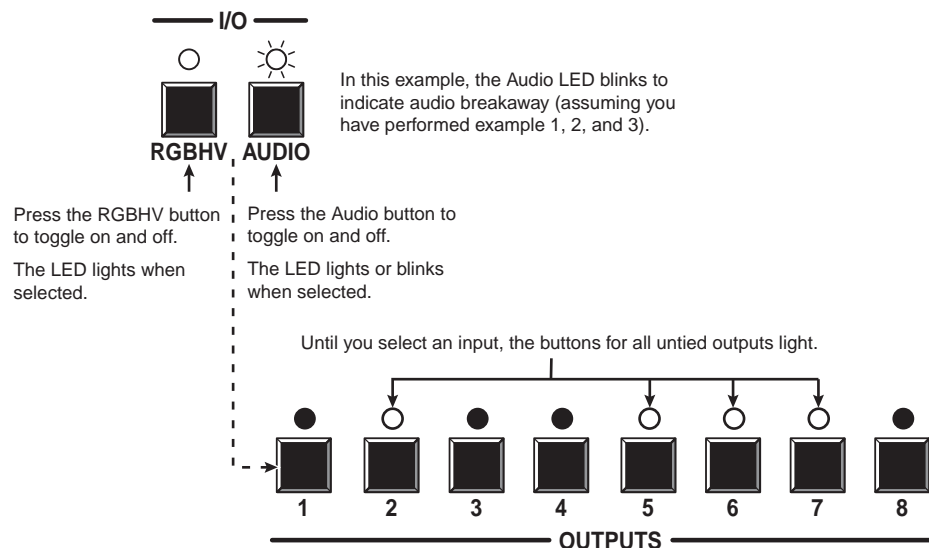

Figure 3-23 — Select RGBHV or video and audio
3. To select both video and audio for viewing, if necessary, press and release the RGBHV button and the Audio button (figure 3-23).